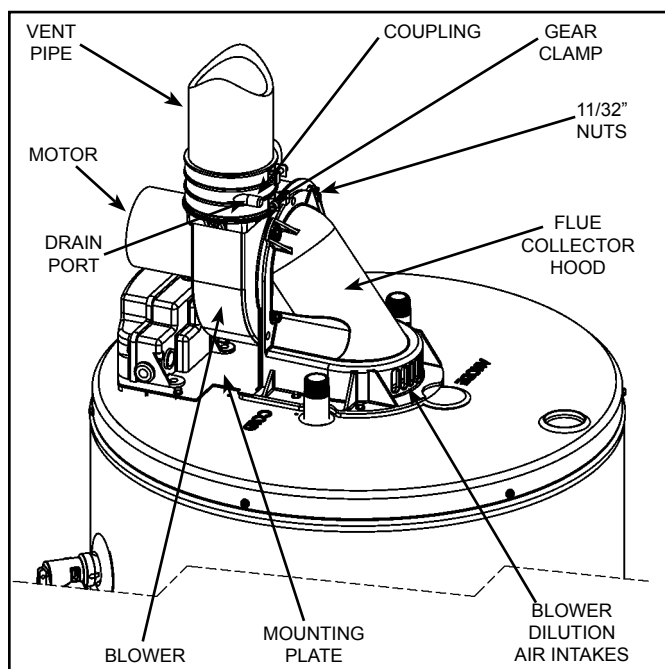

Figure 39.
Inspect the top of the heater and around the ventilation openings of the blower motor and the rear blower dilution air intakes for any lint and dust that may have accumulated. Depending on the location of the heater, significant quantities of lint may accumulate. The lint may obstruct the free flow of air to the motor, and cause the motor and blower to run hotter than normal (see Figure 39).
4. Disconnect the vent piping from the top of the blower. Loosen the lower gear clamp that holds the rubber coupling to the blower (see Figure 39).
5. Remove and retain the (4) 11/32" nuts located on the back of the blower with the nutdriver (see Figure 37 & Figure 39).
10. With all parts cleaned and the blower wheel turning freely, reinstall the blower to the mounting plate aligning the (4) studs and pushing tight against the mounting plate.
11. Reinstall the (4) 11/32" nuts and tighten securely. All (4) nuts must be in place and secure to safely operate the blower.